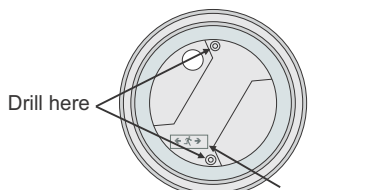

Figure 5
Step 3. Drill 2 holes on the base using a 4mm drill bit in order to permit the retaining screws to pass. Mark these two drilled points on the required mounting location, drill the holes and install the supplied plastic plugs. **ATTENTION!!** Especially for the **GR-290/M/WL** and **GR-292/M/WL** luminaire installation on the ceiling you must align the base with the indications on the luminaire's base (Figure 5).